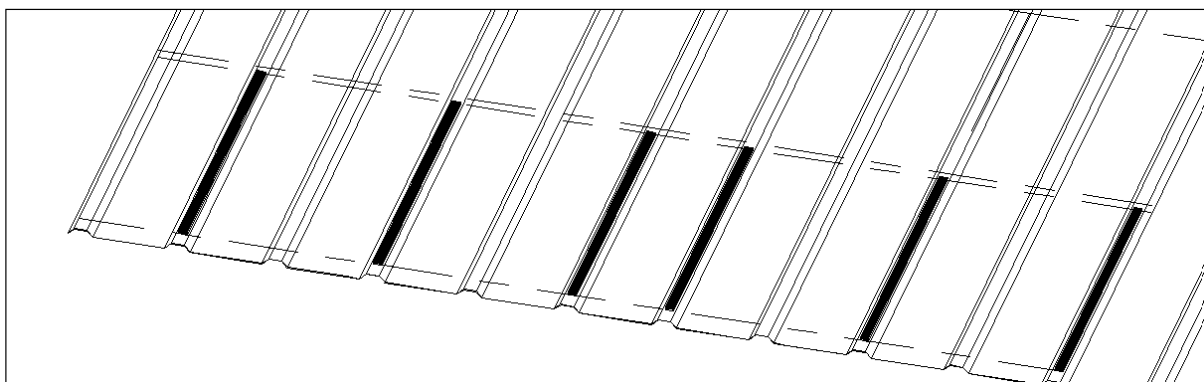

Figure 7
- ① Before product construction, all materials and adhesive to be processed must be stored for at least 24 hours under equal conditions (such as 5° C - 40° C) and protected from sunlight, rainwater and other weather factors..
- ② Clean the roof substrate. The roof surface must be clean, dry and free from oil, dust and other waste pollution. Every step in the construction process must prevent secondary pollution of the cleaned material surface. If pollution occurs, the surface must be re-cleaned.
- ③ The on-site construction should comply with the requirements of the selected structural adhesive, including environmental conditions, construction techniques, and other specifications.
- ④ The adhesive position should be determined by the chalk line, and the structural adhesive should be applied according to the gluing rules at the location where the product needs to be installed. (Figure 7)